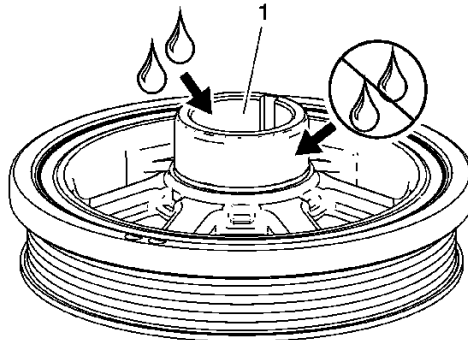

Figure 1: Lube the inner hub NOT the outer surface
- 8 Apply lubricant to the **inside** of the crankshaft balancer hub bore only!!! Do not lubricate the crankshaft front oil seal or crankshaft balancer sealing surfaces. The crankshaft balancer is installed into a dry seal. See Figure 1 below.